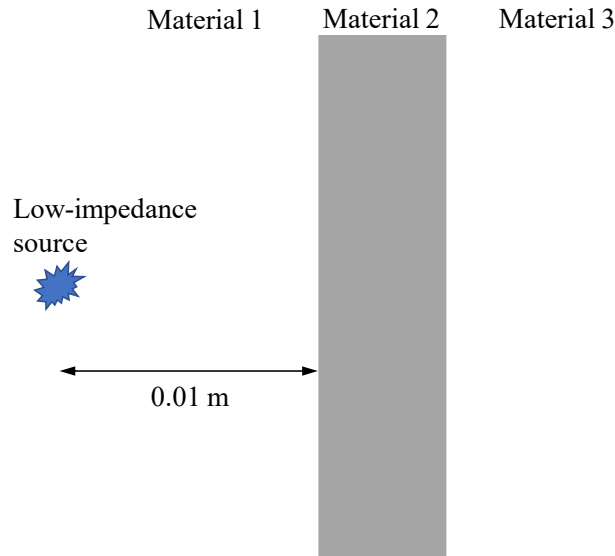

Figure 2. Arrangement of the low-impedance source and the conductive shield.
2. The shielding effectiveness (SE) of a solid shielding material arranged as in Fig. 2 is given as:  $|T_1 T_2|^{-1} e^{\alpha t} |1 - \Gamma_2^2 e^{-2\gamma t}|$ , where  $T_1$  is the transmission coefficient at the first interface (between material 1 and material 2),  $T_2$  is the transmission coefficient at the second interface (between material 2 and material 3),  $\Gamma_2$  is the reflection coefficient at the second interface,  $t$  is the thickness of material 2, and  $\gamma = \alpha + j\beta$  is the complex propagation constant of material 2. Material 1 is air.